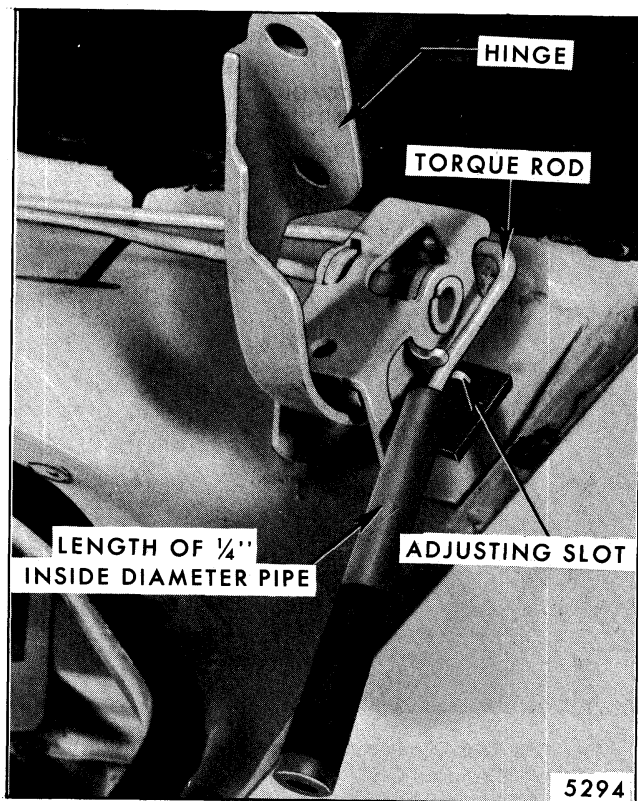

Fig. 7-40-Rear Compartment Torque Rod Adjustment - "F" Styles
- e. On "F" styles, use a length of 1/4" inside diameter heavy wall pipe (Fig. 7-40).